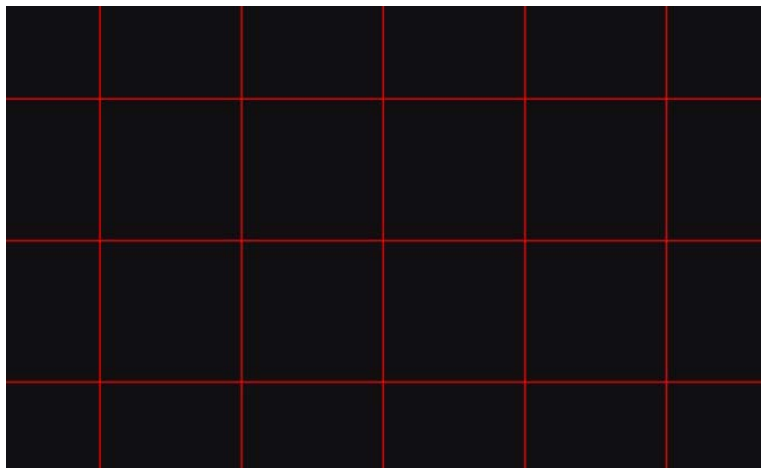

Fig. 5-78 Crosshair ruler
- (5) Crosshair ruler : Self key in unit of gap and display square ruler, see Fig. 5-78.